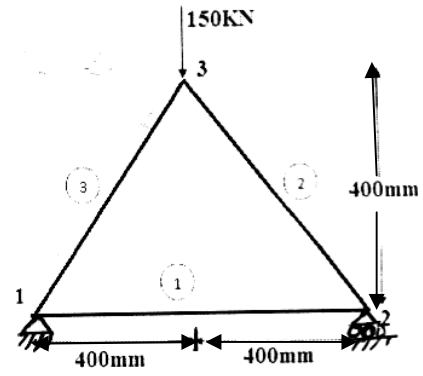

Fig. Q 6.
6. For the three bar truss shown in Fig. Q. 6(a) determine the nodal displacements and the – stresses in each member. Find the support reactions also. 20